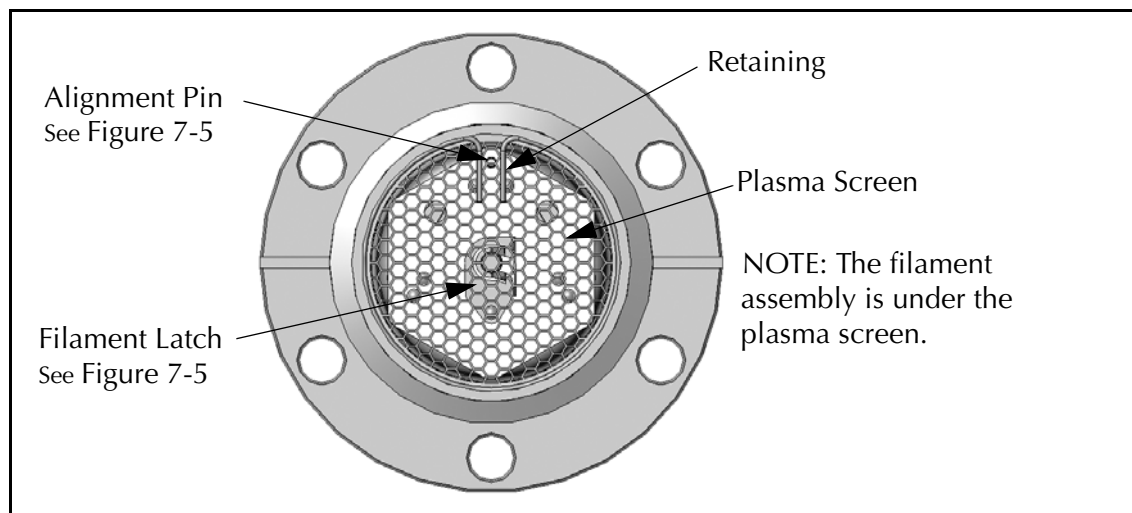

Figure 7-3 VQM MS Gauge Components
4. Look closely at the port of the MS Gauge and make note of the position of the components as shown in Figure 7-3. Orient the gauge as shown in Figure 7-3.